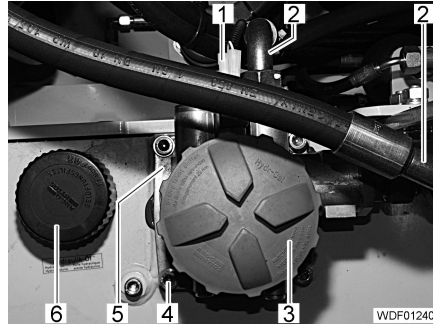

Fig. 259 Return filter
- Open the cap (Fig. 259,6).
- Briefly open the cap (Fig. 259,3) so that the fluid can flow out of the return filter and into the hydraulic fluid tank.
- Close the 2 caps (Fig. 259,3 and 6).
- Remove the 2 connectors (Fig. 259,1) from the pressure switch.
- Unscrew and close off the hydraulic lines (Fig. 259,2).
- Unscrew the 4 screws (Fig. 259,4).
- Pull the return filter (Fig. 259,5) upwards and to the rear out of the hydraulic fluid tank.
- Screw in the 4 screws (Fig. 259,4) with spring lock washers and tighten.
- Screw the hydraulic lines (Fig. 259,2) onto the return filter and tighten.
- Connect the 2 connectors (Fig. 259,1) to the pressure switch.